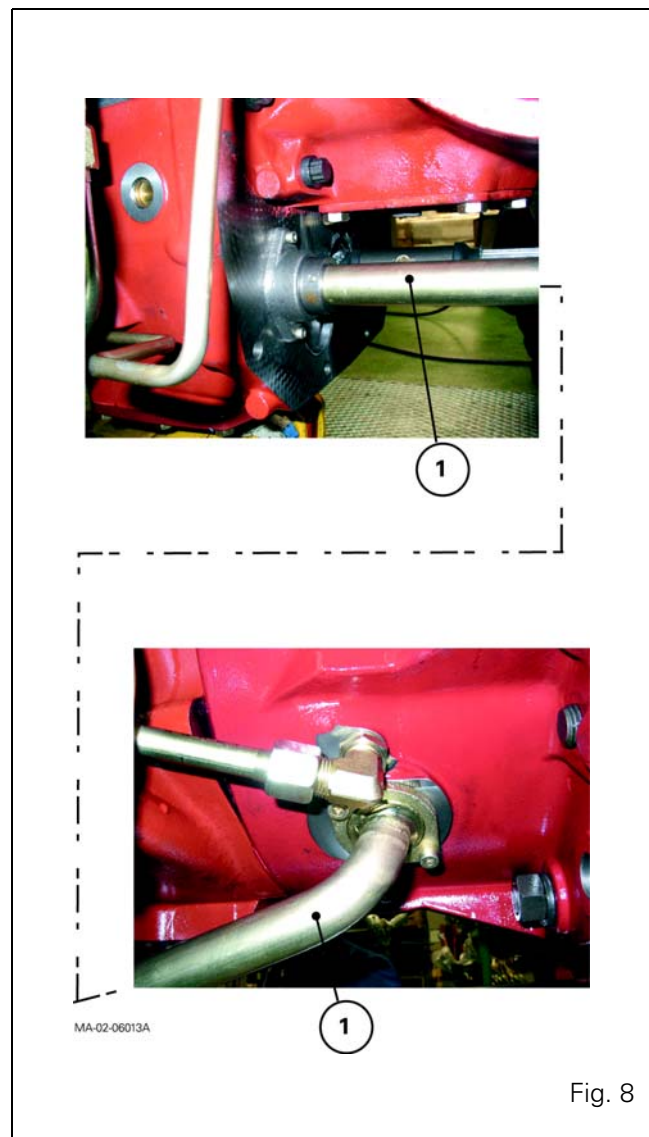

Fig. 8
- the reverse shuttle lubricating pipe (1) located between the centre housing and gearbox (Fig. 8).